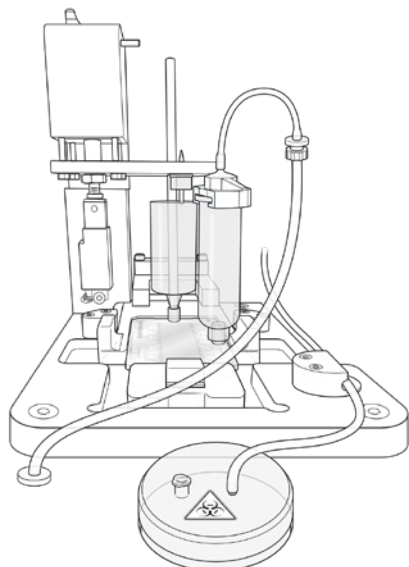

Fig. 24. Genesis System tubing attached to the backflow adaptor in preparation for slide priming.
- Attach the Genesis System tubing to the backflow adaptor tubing (Figure 24).